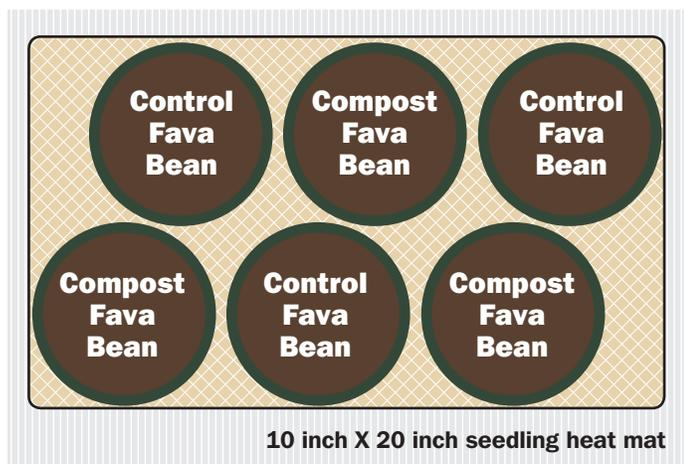

Figure 3. Sample layout for a six pot plant growth test experiment.
- ❑ **Seedling Heat Mat.** All pots should be kept on heat mats until the seeds have germinated. In warmer parts of the U.S. where one can easily maintain temperatures near the upper end of the temperature range, a heating mat may not be necessary. In the 6 container trial detailed in this fact sheet, you will need one 10" × 20" mat (see Figure 3). Hydrofarm manufactures one such mat: <https://www.hydrofarm.com/p/MT10006>.
- ❑ **Trowels (2).** One for the compost media and one for the soil-less potting media. Stainless steel trowels are ideal.
6. Wear a new set of disposable gloves. Fill 3 pots with the compost soil mixture. Tap the bottom of each pot on a table to compress the material and place one of the 3 “Compost” tags into each pot. Plant four (4) fava bean seeds in four quadrants in each of the three “Compost Fava Bean” pots slightly deeper than one inch. Cover the seeds and lightly pack the soil with your fingers. Discard the gloves
8. Place a clean saucer under all six pots and arrange the pots with saucers in an order similar to the diagram (Figure 3). It is important to position the pots in a way that spreads them throughout the array similar to the diagram. This helps ensure that other variables such as humidity, temperature, and light are relatively uniform for all pots.